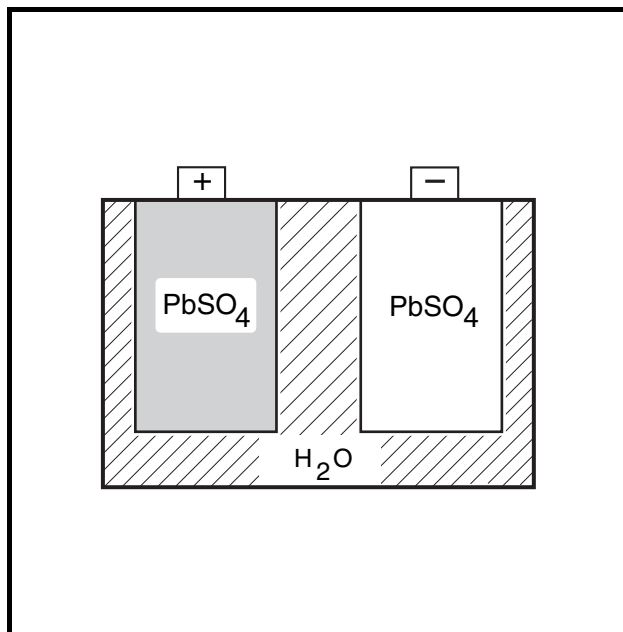

Figure 14-3 Discharged Battery
The sulfate (SO4) combines with the lead (Pb) on both plates, forming lead sulfate (PbSO4). Oxygen (O2) from the positive plates combines with hydrogen (H) from the electrolyte to form water (H2O) (**Figure 14-3, Page 14-2**).